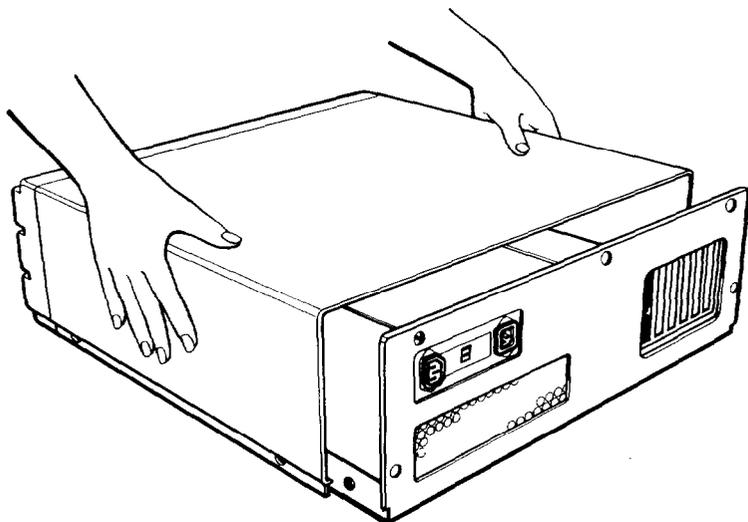

Figure 4-2. *Sliding back the cover*
3. Turn the main unit around so the front panel faces you. Hold on to the two sides of the cover and carefully pull it straight toward you, away from the back of the computer, as shown in Figure 4-2. The cover fits tightly, so if you have trouble moving it at first, keep pulling it firmly.